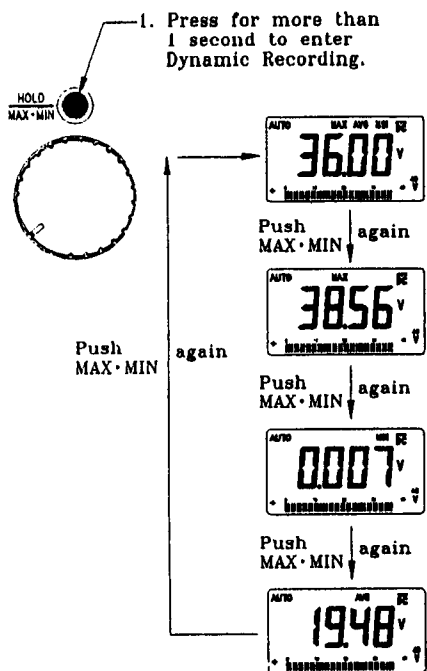

Figure 7. Display of Dynamic Recording
- 3) Press this button momentarily to cycle through maximum, minimum, average and present readings. The MAX, MIN, AVG or MAX AVG MIN annunciator turns on respectively to indicate what value is being displayed, see Figure 7.